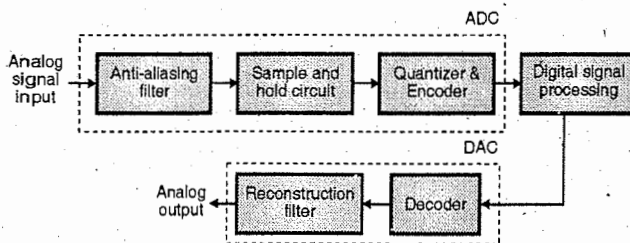

Fig. 13.1.1 : A/D and D/A converter application
- Fig. 13.1.1 shows a A/D and D/A converter application.
As shown in the Fig. 13.1.1 the A/D conversion involves band limiting the signal, sampling the signal, quantizing it and encoding it into a suitable digital format before transmission. Once the signal is transmitted, it is received and converted back to analog form by the decoder and the reconstruction filter.